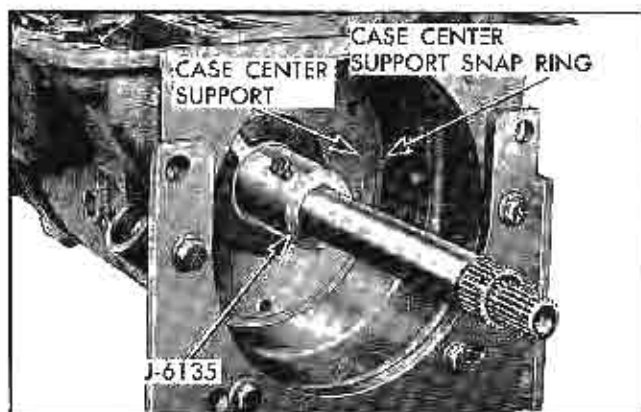

Fig. 57 Rear Unit Clutch Retainer in Position
9. Back retainer screw out of retainer J-6135 so as not to score shaft, then slide retainer onto intermediate shaft against center case support and lock securely (Fig. 57).